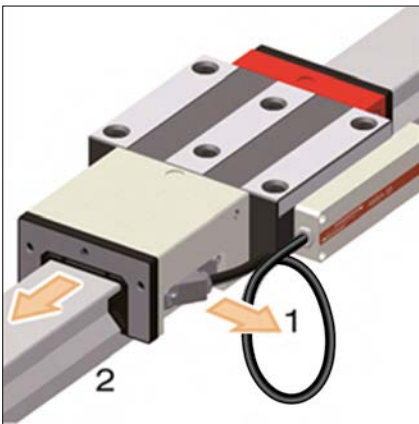

Fig.29
Disassemble the AMS read head (1) before mounting or dismounting the MONORAIL carriage onto or from the guideway (2) (Fig. 29).